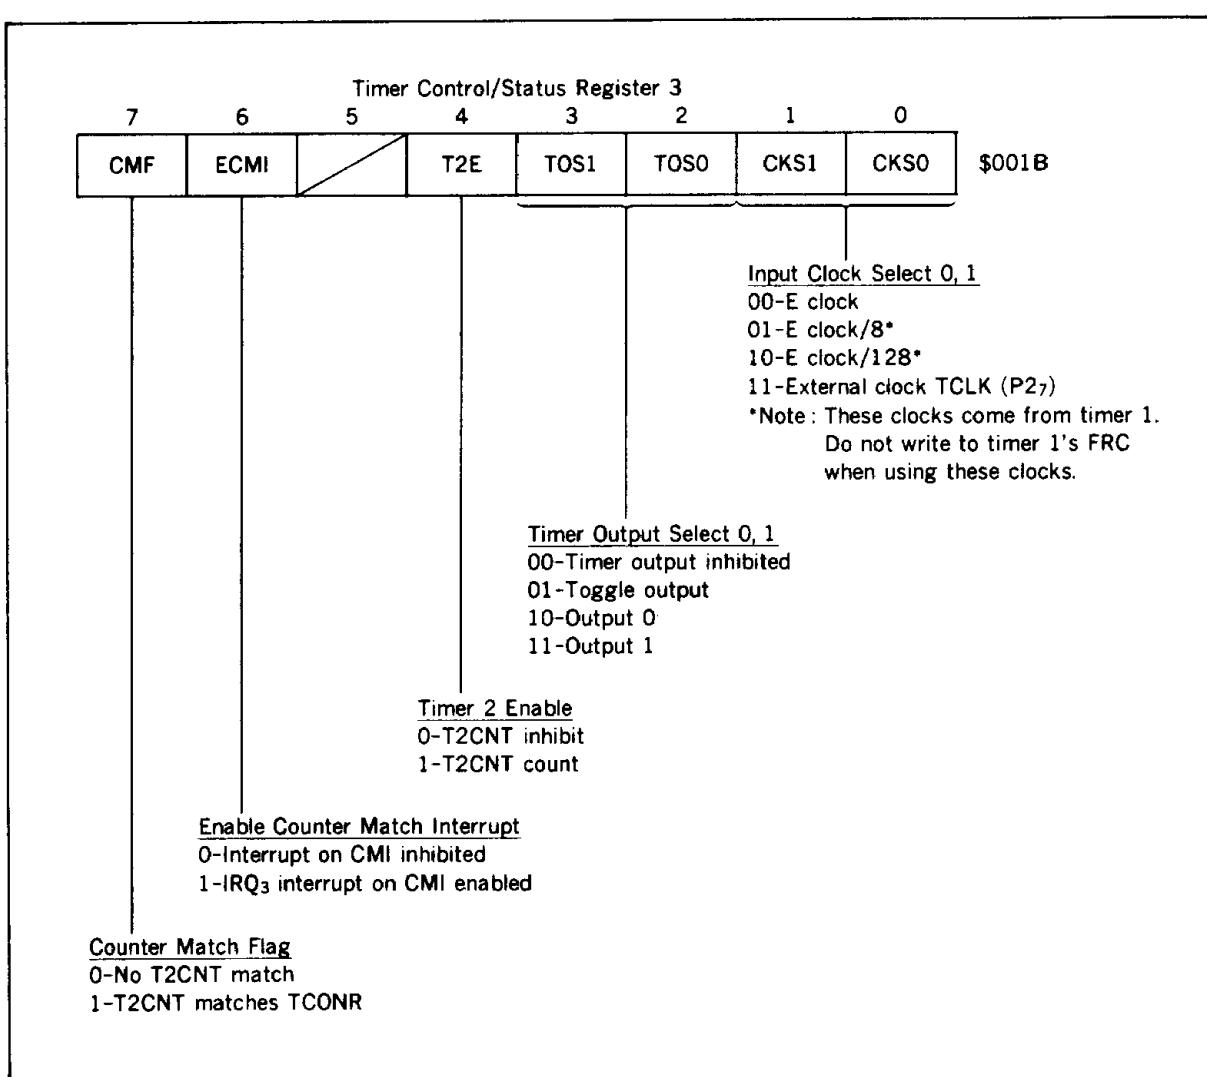

Figure 30. Timer Control/Status Register 3
**Timer Control/Status Register 3**: Timer control/status register 3 (TCSR3 : \$001B ; figure 30) is a 7-bit register. All bits can be read and all bits except for bit 7, CMF, can be written to. CMF can only be cleared, not set. The TCSR3 is cleared at reset.
- CKS0, CKS1 : CKS0 and CKS1 select timer 2's input clock as shown in figure 30. When an external clock is selected, P27 will be the clock input automatically.
- TOS0, TOS1 : TOS0 and TOS1 select the output that occurs on a counter match as shown in figure 30.